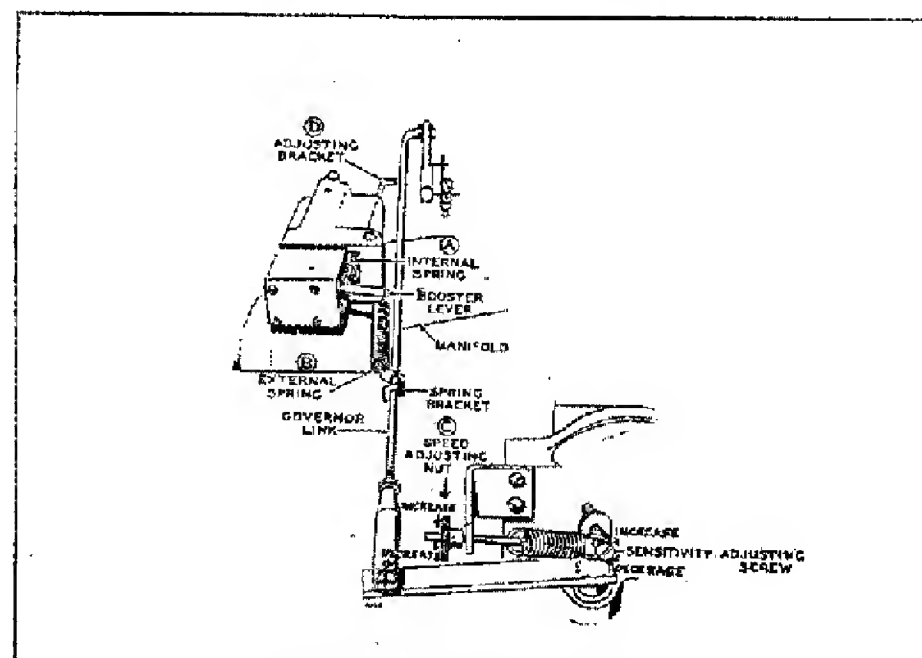

Fig. 21 Governor Booster
The booster is mounted on the intake manifold and is operated by engine vacuum through a small passage in the manifold. See Fig. 21. When the plant is operating at about half load or less, the engine vacuum is sufficient to cause the diaphragm to overcome the tension of the internal booster spring (A). Under these conditions, there is no tension on the booster external spring (B) and the booster does not affect the governor operation.
2. With the plant operating at no load, disconnect the booster external spring (B), Fig. 21. Turn the speed adjusting nut (C) to obtain a frequency reading of 60 to 61 cycles for a 60 cycle plant (50 to 51 cycles for a 50 cycle plant). The voltage should be within the limits shown in the table IV, according to the rated plant voltage shown on the plant nameplate.
8. After satisfactory performance has been attained under various loads the booster can be connected. With the plant operating at no load, connect the booster external spring, Fig. 21. Adjust the bracket on the governor link just to the position where there is no tension on the spring.
9. Now connect the full electrical load to the generator. The frequency should stabilize at a point 1 to 2 cycles HIGHER than the no load frequency. For example, if the no load frequency is 60 cycles, the frequency under full load should be 61 to 62 cycles. If the rise in frequency is more than 2 cycles, lessen the internal spring tension. If there is a drop in the frequency, increase the internal spring tension. Adjust the tension of the internal spring by pulling out on the spring bracket (I) and moving the pin to a different hole.
12. The booster requires little maintenance other than using a fine wire to clean the small hole in the short vacuum tube which fits into the hole in the top of the engine intake manifold. Do not enlarge this hole. If there is tension on the external spring, Fig. 21, when the plant is operating at no load or light load, it may be due to improper adjustment, restricted hole in the small vacuum tube, or a leak in the booster diaphragm.
8. Connect a full electrical load to the generator. As the electrical load is connected, the governor should act smoothly and quickly to keep the voltage within the limits in the table. However, there should be not more than a spread of 3 cycles between the no load frequency and the full load frequency. For example, if the frequency was 60 cycles at no load, then the full load frequency should be not less than 57 cycles. If the cycle spread is more than 3 cycles, turn the sensitivity screw, Fig. 21, in (clockwise) a half turn. This will, in turn, necessitate a slight compensating speed nut adjustment. Repeat the process until the cycle spread is within 3 cycles and voltage is within the limits shown in the table.